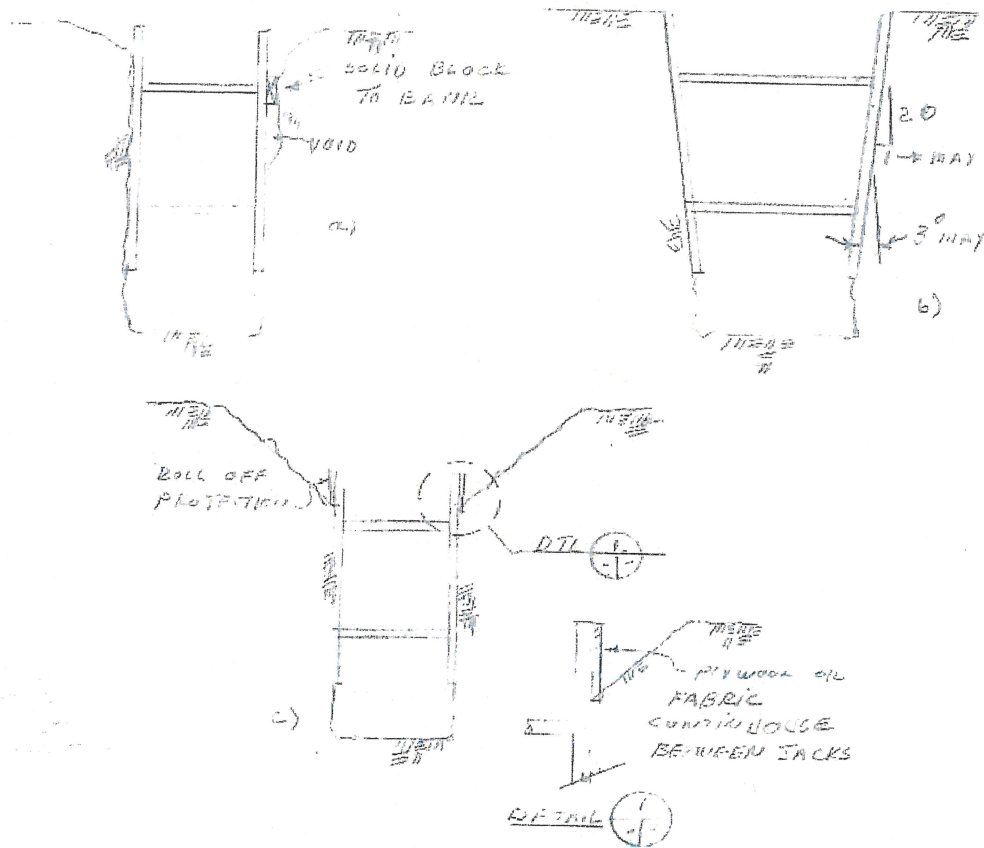

Figure 6: Trench safety issues
- Loose trench jacks in the trench - Jacks that are not pressurized in the trench are not setting up arching and preventing trench collapse. In this condition the jacks can also fall down on workers below them. Jacks should not leak at all. Pressure can change slightly up or down due to temperature changes or increase due to loading however it should never loosen up in the ditch. If jacks are left overnight they should be checked before entering the trench in the morning. Simply tap them with a hammer or bar of metal, they will sound loose if they are. Remove and replace jacks that bleed off. If the trench wall has voids where the cylinder hits the wall, use wood blocking to extend the connection to the soil, see **Figure 6 (a)**
- Non-vertical trench walls - Trench walls that are not vertical, an inverted A shape, the trench jack is not stable see **Figure 6 (b)**. Assuming a coefficient of friction of 0.1 between the soil and the aluminum rail and applying a factor of safety of 1.5 calculations indicate that the slope of the trench wall should not exceed 3 degrees or the jack will lift up and fail to provide an arching point.
- In trenches that are sloped above, extending the jack 18" above the hinge point does not provide roll off protection for workers below due to the fact that the jack is spaced. Place fabric or boards behind the jack rail to stop objects at the surface and bank ravel from falling on workers, see **Figure 6 (c)**